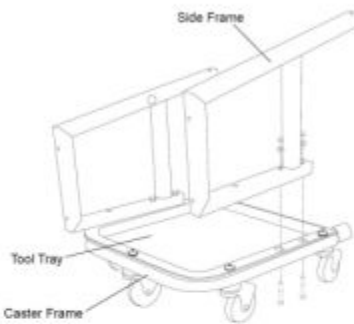

Figure 2 - Assembling tool tray and casters
2. Attach two creeper Side Frames to Caster Frame with two M6 x 60 Hex Head Bolts, two washers and two acorn nuts each (Fig 2).